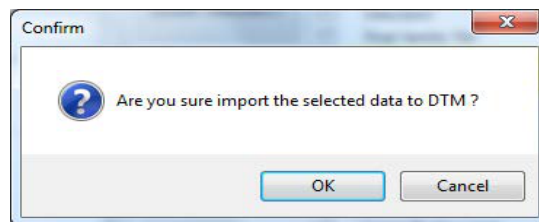

Figure 98 - Apply
- Click **Apply** and Figure 98 appears.